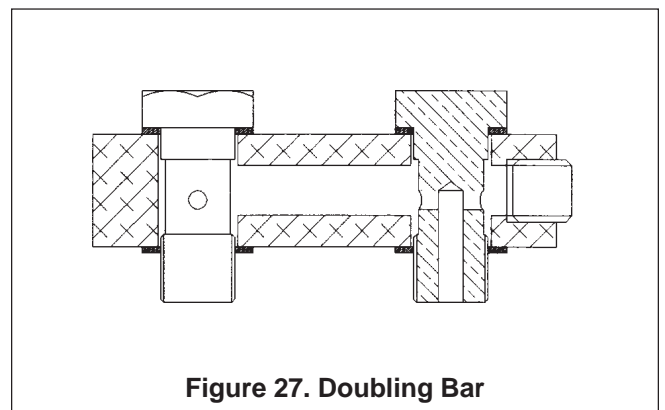

**Figure 26. Air Agitator**
**AIR AGITATOR.** (See Figure 26.)